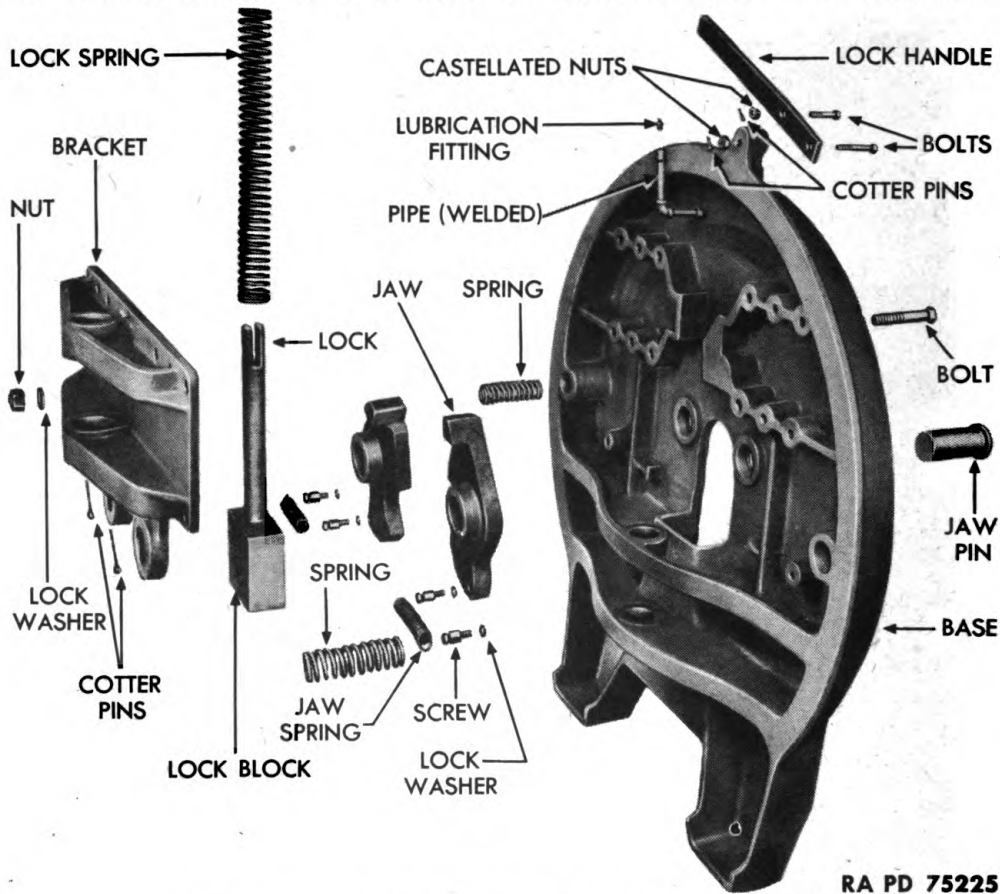

Figure 54 — Fifth Wheel Base — Disassembled
(3) REMOVE LOCK HANDLE AND BLOCK (fig. 54). To gain access to the bolt which holds the lock handle to the lock, place wooden block back of lock block and rod. Remove cotter pin, castellated nut, and bolt which holds handle to lock. Remove bolt, nut, and lock washer which secures handle to base, and remove handle. Remove block, lock, and lock spring.
(1) **INSTALL LOCK BLOCK AND HANDLE** (fig. 54). Install spring on lock block and rod, and use wooden block to wedge lock, with spring attached, through hole in base. Attach lock handle to rod by installing bolt, castellated nut, and cotter pin. Secure handle to base by installing a bolt, nut, and lock washers.
(2) **INSTALL JAWS** (fig. 54). Pull out handle, and place jaws in position. Lift handle end of base, and install jaw pins from top side of base, and secure jaw pins with cotter pins. Insert 12 bracket bolts through base from top side.
(3) **INSTALL BASE BRACKETS** (fig. 54). Lift bracket into position over bolts, then install 12 nuts and lock washers which secure bracket to base. Install two jaw springs by installing two springs and two spring screws and lock washers for each spring. One end of spring is secured to a jaw and other end to base.